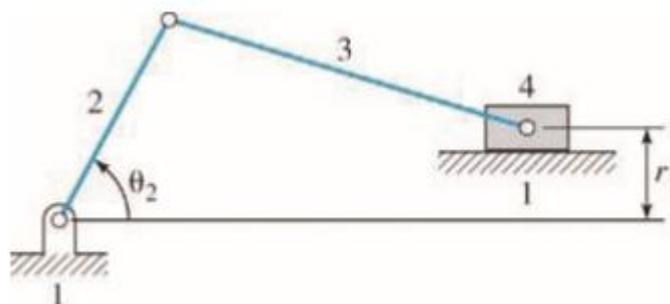

Fig. 2
2. Given  $r_1 = 10$  mm and  $r_3 = 25$  mm for a slider crank mechanism as shown in Fig. 2